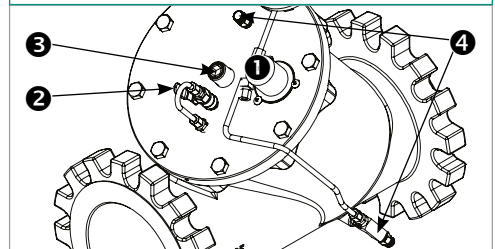

Figure 2
After installation and air venting, the desired  $\Delta p_{\text{Circuit}}$  is set by adjusting the setting ① (figure 2) under the cap on top of the valve. Use a 13 mm (1/2") Allen key and NOTE: ADJUSTMENT SHOULD BE DONE SLOWLY, APPROXIMATELY ONE TURN EVERY 10 SEC. Increasing the  $\Delta p_{\text{Circuit}}$  by turning clockwise and decrease by turning counter-clockwise. To increase to maximum  $\Delta p_{\text{Circuit}}$  (170 kPaD / 25 psid) turn the setting approximately 15 full turns.
Measure the  $\Delta p_{\text{Circuit}}$  on the p/t plugs ④ (figure 2) while turning the adjustment ①. WAIT UNTIL THE VALVE STABILIZES ITSELF.
1. Turn the adjustment bolt under the cap ① (figure 2) clockwise to fully open position (max. 12.5 Nm).
2. Turn off the ball valve ② (figure 2) by positioning the handle across the pipe and wait for at least 1 minute.
3. Close the on/off bolt ⑤ (figure 2) all the way by turning clockwise with a flat screwdriver on DN65/80 (2 1/2") or a 13 mm (1/2") Allen key on DN80/100 (3 1/4") and DN125/150 (5 1/8").